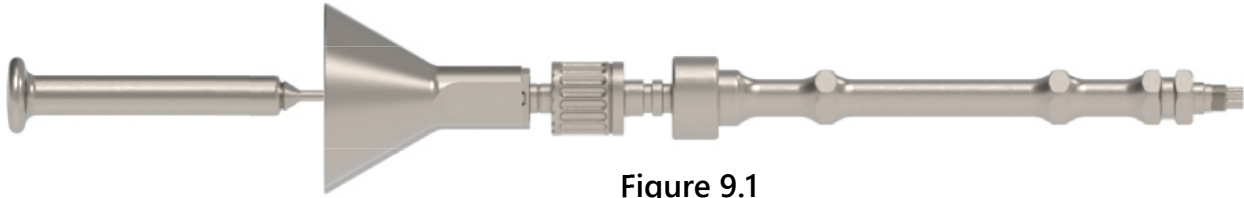

Figure 9.1
1. **Autograft or non-syringe-based flowable allograft:** Remove the Steinmann Pin and press the provided Bone Funnel onto the proximal end of the HELIXX Inserter (Figure 9.1). Using forceps or pickups, transfer the autograft/allograft to the Bone Funnel and tamp the material down the cannula of the HELIXX Inserter with the Plunger. The Plunger has been designed to extend past the tip of the HELIXX Inserter.